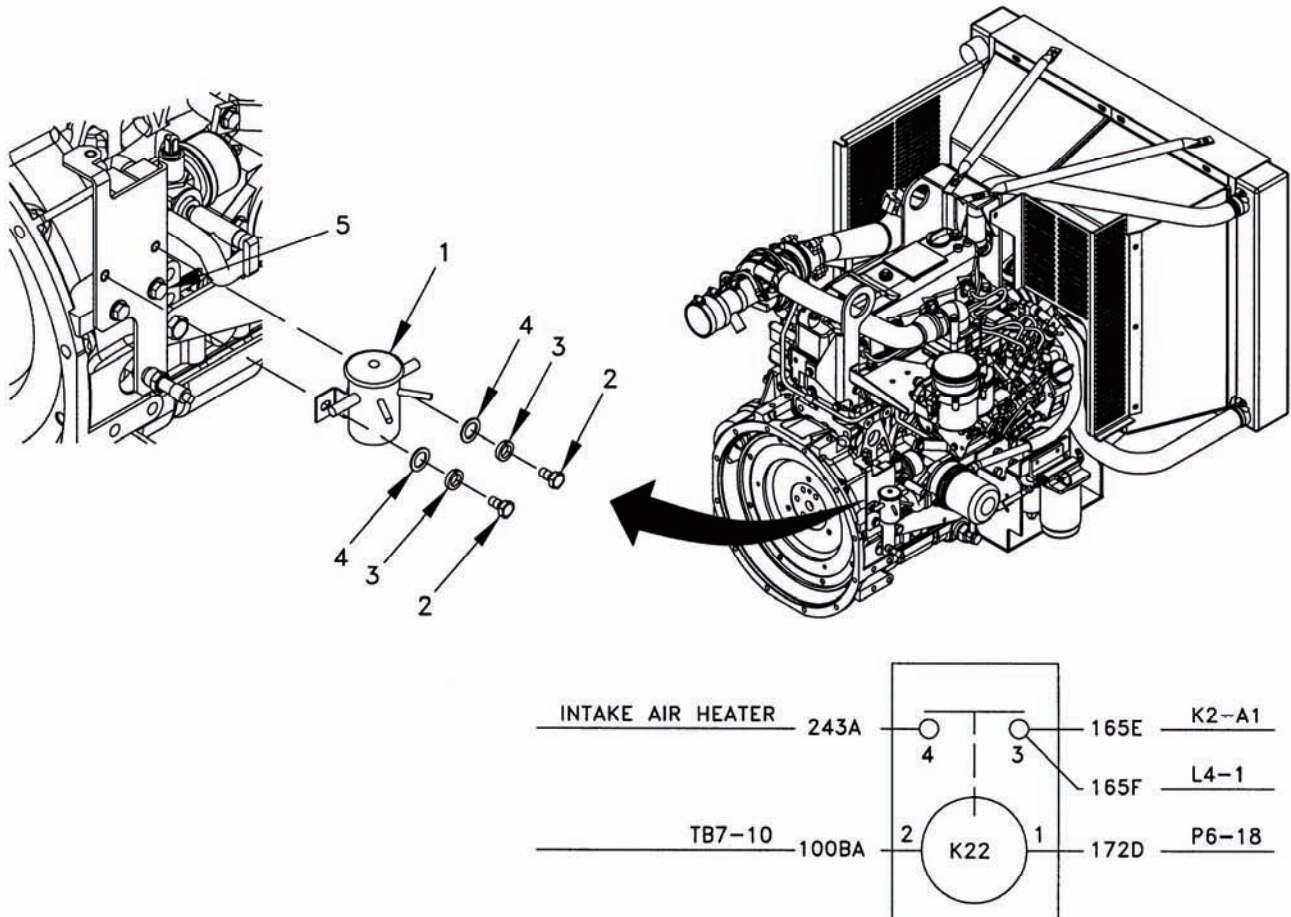

Figure 5-39. Engine Ground Stud.
- an. Install contactor K22 (1, Figure 5-39) using two screws (2), (Item 62, Table 5-1), lock washers (3) (Item 58, Table 5-1), and washers (4) (Item 83, Table 5-1).
- as. Remove mounting bolt (5, Figure 5-39) from magnetic pickup bracket and install ground wire 100FP16 (from connector P13) and wire 100HTR and tighten.